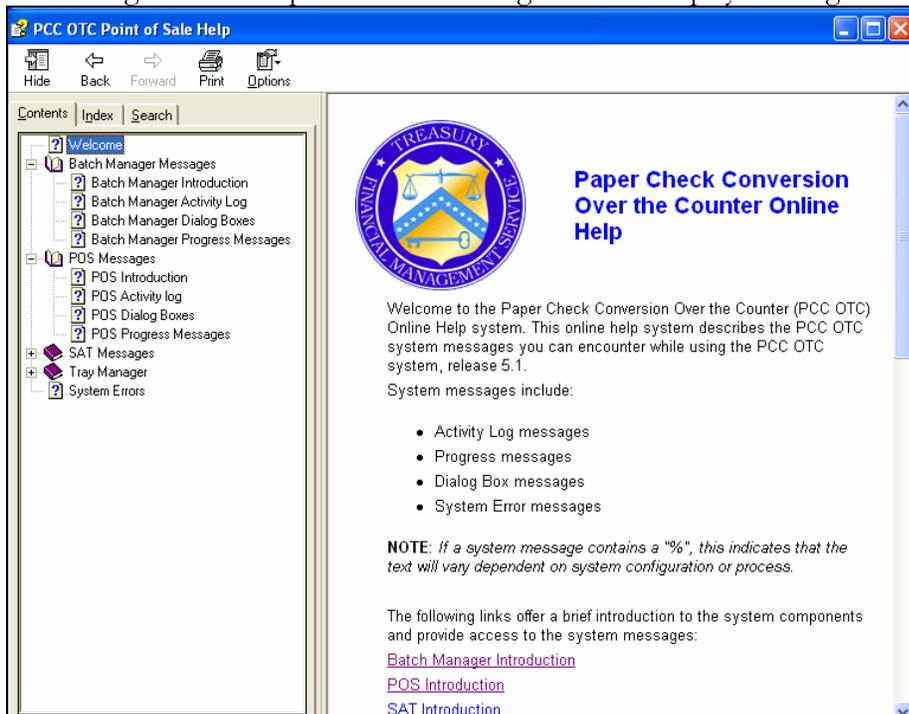
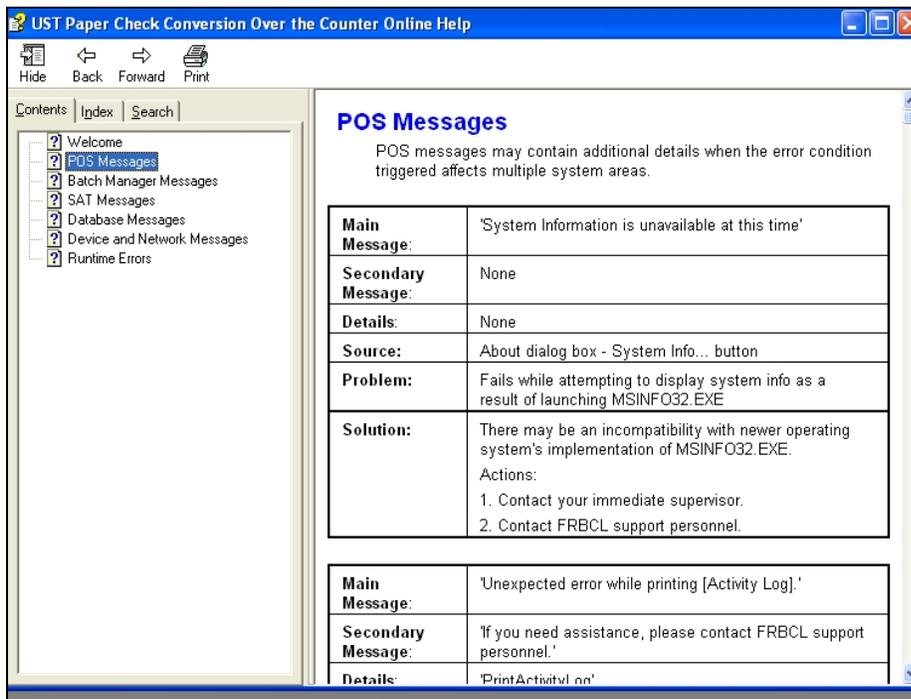

Figure 4.23
Figure 4.24
- Contents – Displays a menu of POS system messages as displayed below in Figure 4.23. You can click on any of the categories to see the description of various messages for that category. POS messages include an Introduction, along with Activity Log messages, POS dialog box messages and POS progress messages. An example of a POS message screen is displayed in Figure 4.24.